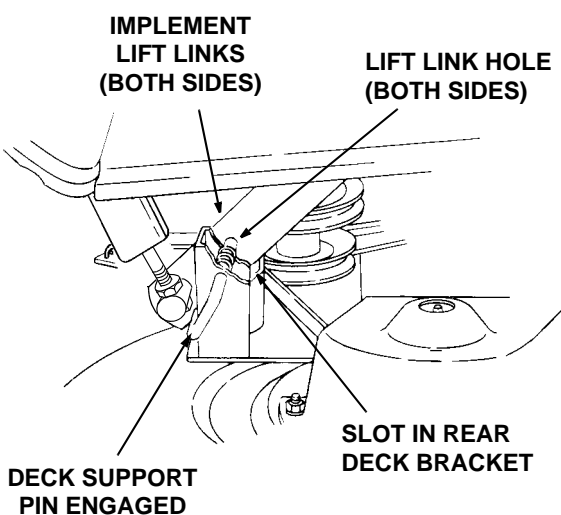

Figure 56
7. Carefully guide the tractor implement lift links (left and right) into the rear deck bracket slots (left and right) as the tractor implement lift handle is lowered to its lowest setting (Refer to Figure 56).
8. Pull both deck support pins outward and rotate rearward to disengage the outer surface of the rear deck brackets. Release the pins, making certain each deck support pin passes through the inner hole of the rear deck bracket. The spring tension will push the pins inward and, if aligned, through the hole in each implement lift link (See Figure 56).